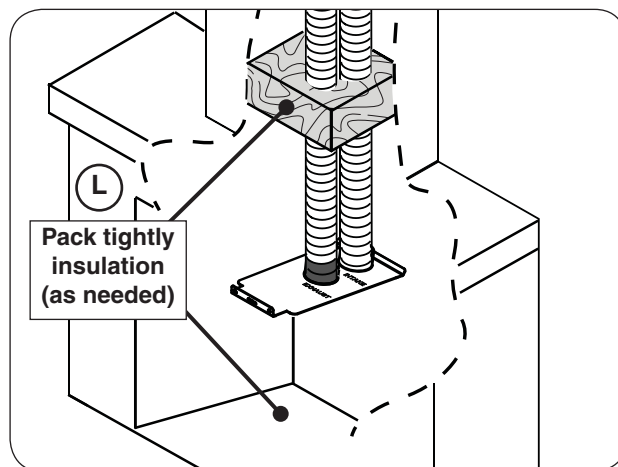

Fig. 22-3 Insulate chimney and fireplace
12. Pack tightly insulation (not included) in fireplace around pipes at damper area (inside bottom of chimney), ash trap, gas line access, holes, and any air openings, etc. See Fig. 22-3, L.